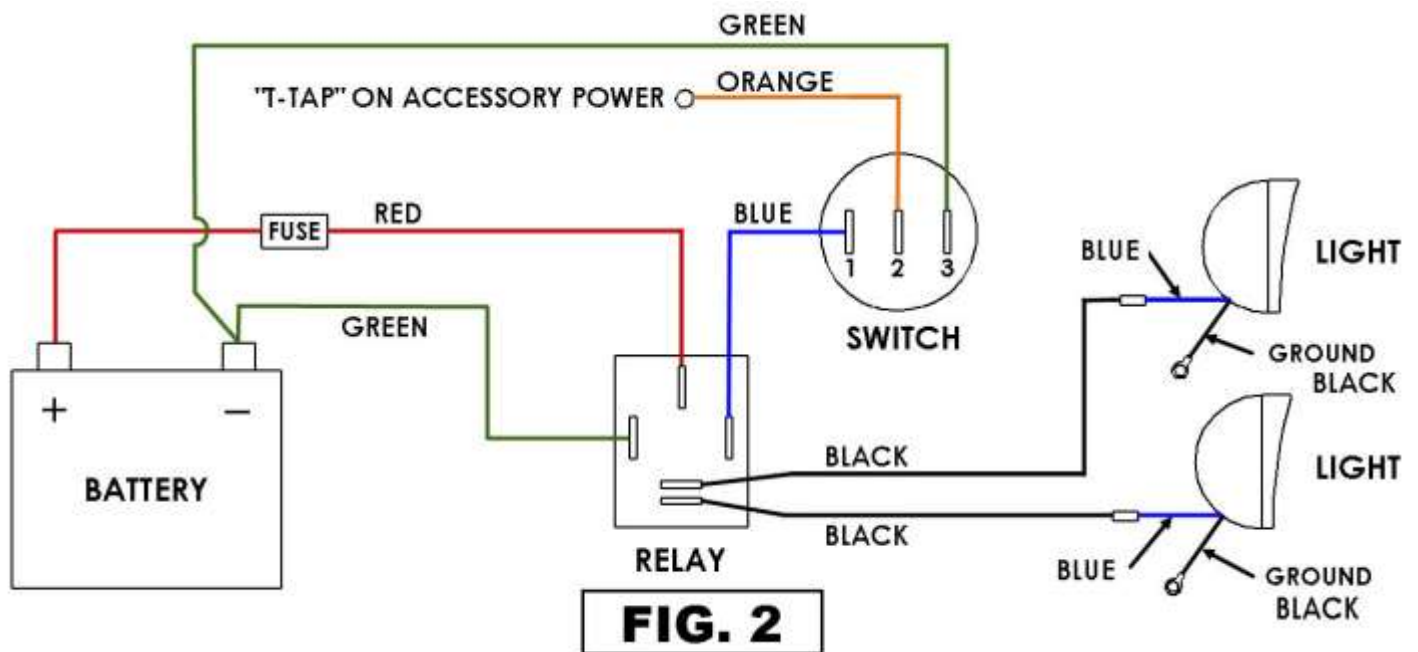

FIG. 2
10. INSTALL EACH OEM TURN SIGNAL (G) ONTO THE NEW TURN SIGNAL ADAPTER (H) ROUTING THE WIRES THROUGH THE HOLE IN THE ADAPTERS. USING THE SCREW (F) REMOVED IN STEP 9; SECURE THE TURN SIGNAL (G) TO THE ADAPTER (H).
11. ROUTE THE OEM TURN SIGNAL WIRES AND SPOT LIGHT WIRE UNDER THE LIGHT BAR (D).
12. THE TURN SIGNAL ADAPTERS (H) WITH OEM TURN SIGNALS (G) NEED TO BE POSITIONED INTO THE LOWER ENDS OF THE NEW LIGHT BAR (D) AND SECURED WITH THE SET SCREWS (J). THERE ARE THREE SET SCREWS ON EACH SIDE.
13. USING THE M6-1.0 X 16MM LONG BUTTON SOCKET HEAD CAP SCREWS (K) AND 6MM LOCK WASHERS, INSTALL THE LIGHT BAR (D) ONTO THE LIGHT BAR BRACKET (B). TIGHTEN SECURELY WITH A 4MM ALLEN WRENCH.
15. LOCATE YOUR BIKE'S BATTERY, FUSE BLOCK, AND/OR ACCESSORY TERMINALS AND WIRE ACCORDING USING FIG. 2.
WIRING THE DRIVING LIGHTS (SEE FIG. 2)